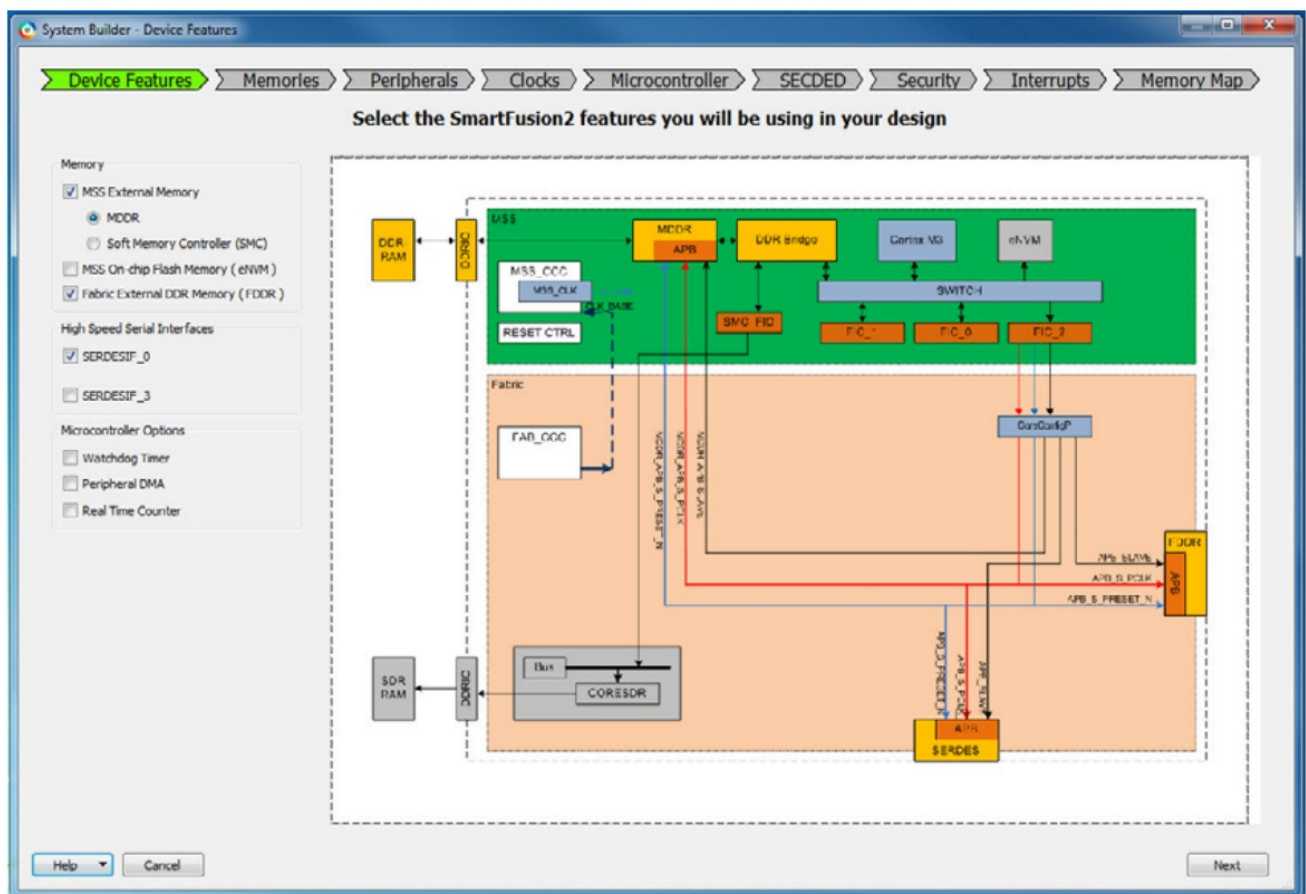

Figure 2-1 • System Builder Device Features Page
1. In the Device Features page (Figure 2-1), specify which DDR controllers are used and how many SERDESIF blocks are used in your design.
In the Device Features page, specify which DDR controllers (MDDR and/or FDDR) are used and how many SERDESIF blocks are used in your design (Figure 2-1).